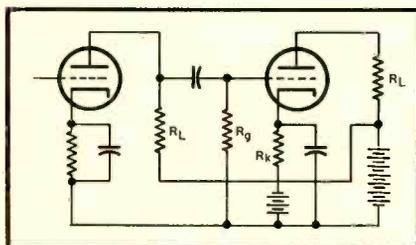

Fig. 1. Conventional R-C coupled circuit in which voltage divider action occurs between stages.
Fig. 1. Actual measured curves showing the motional impedance  $Z_m$  for a typical speaker system (solid line) and the regulation of the driving amplifier (dotted line).
**V**OLTAGE DIVIDER ACTION of typical amplifier coupling circuits often produces a hum or noise voltage across the input of the succeeding amplifier tube. Referring to Fig. 1, the noise voltage may include low-frequency oscillations (motor boating) due to unwanted feedback from the following amplifier stages, or it may include various extraneous noises arising from the power supply. The feedback action results from impedance in the power supply. Resistance-capacitance decoupling units are usually employed to correct this feedback action, but the effectiveness of such units is reduced at very low frequencies and several components are usually required.
In an R-C coupled circuit, a portion of any hum or extraneous voltages arising across the power supply output is impressed across the grid of the following vacuum tube, due to the voltage divider action of the impedances involved. In a conventional R-C coupled circuit, such as shown in Fig. 1, if the impedance of the coupling capacitance is neglected, this voltage component  $e_t$  is as follows: